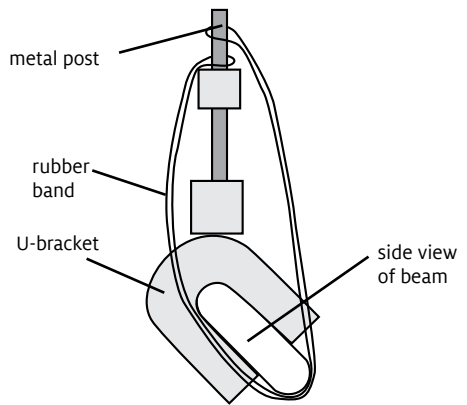

FIGURE 2
- set the bracket/raddle assembly onto the beam of the Wolf loom with the shorter end of the U-bracket under the beam as shown in figure 2.
- secure each bracket with the large rubber bands, also shown in figure 2.